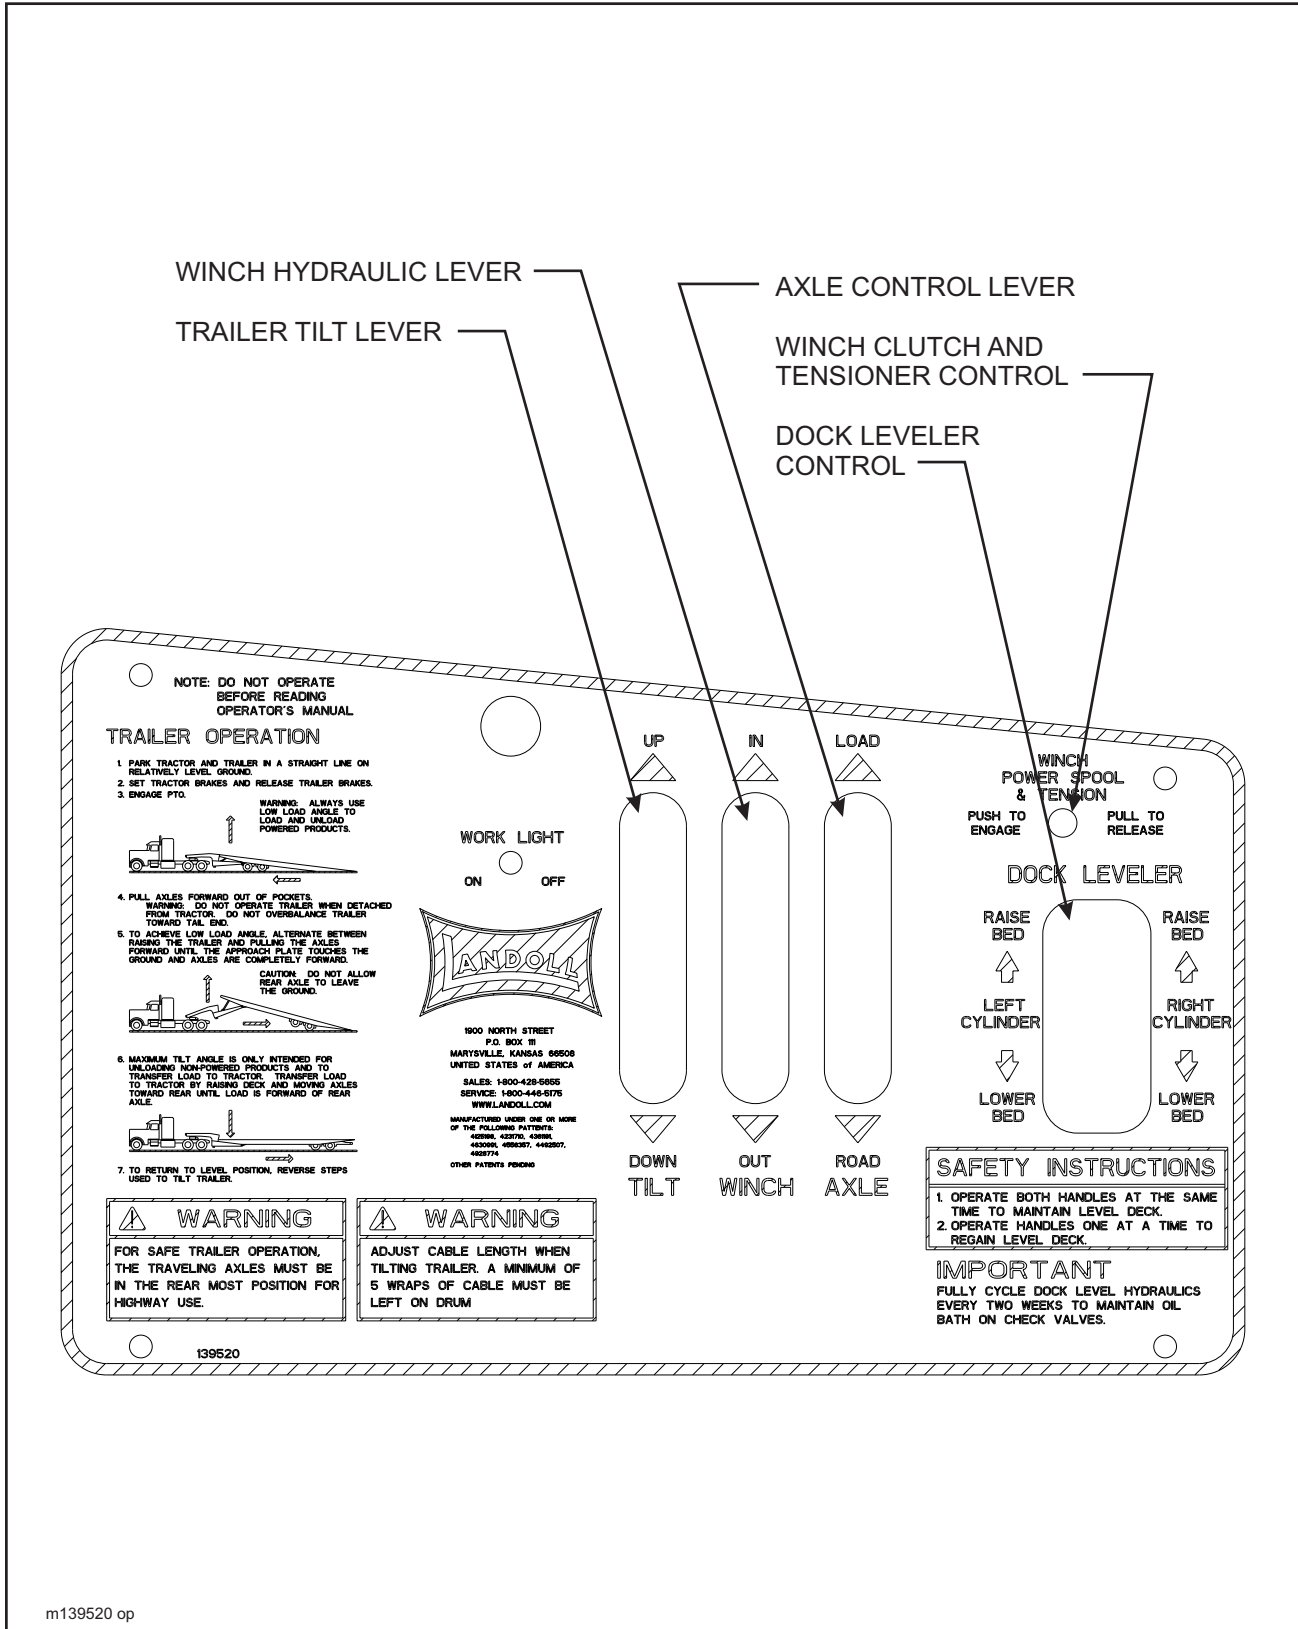

Figure 3-4 Hydraulic Controls
- a. For pin drop landing gear, activate the **TRAILER TILT** lever "UP" (See **Figure 3-4**) until weight is off the landing gear. Raise landing gear. (See **Section 3-9** for operation of **TRAILER TILT** lever.) Secure each leg with a park stand retaining pin in the full "up" position before transporting.